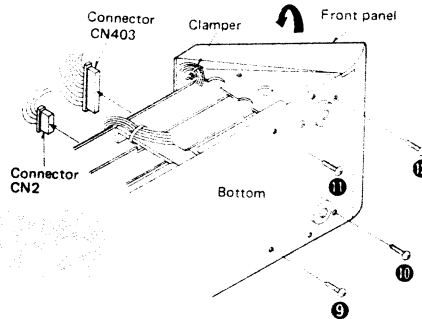

Fig. 2
2. Remove the 4 setscrews (Fig. 2 : ⑨ ~ ⑫) of the front panel.
3. Pull out the connectors CN2 and CN403 of the constant voltage and operation circuit P.C.B., and remove the panel in the direction of the arrow. (Fig. 2)